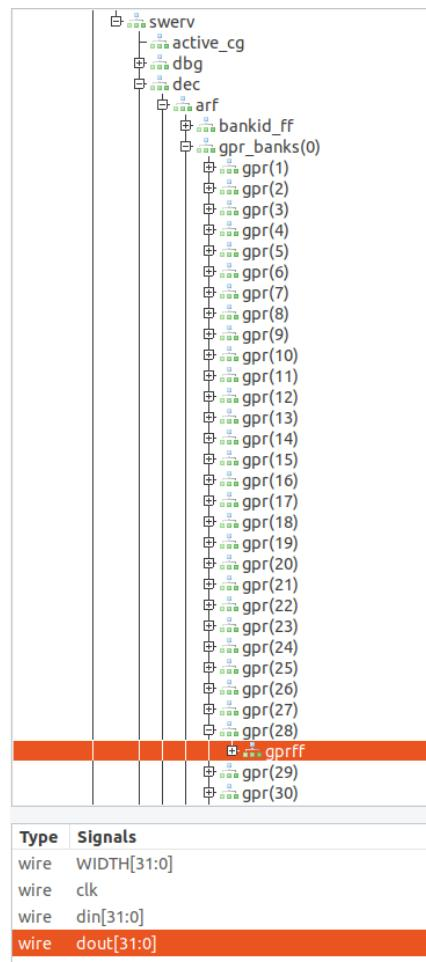

Figure 87. Add signal `dout[31:0]` to the graph
11. Now add the signal that holds the value of register `t3` (i.e., register number 28, `x28`). Expand the hierarchy under `swerv` into `dec` → `arf` → `gpr_banks(0)` → `gpr(28)` and click on module `gprff` (it will highlight as shown in the following figure), select signal `dout[31:0]` (which shows the contents of register `x28`, used in the `AL_Operations.S` example) and drag it into the black Waves pane (Figure 87).